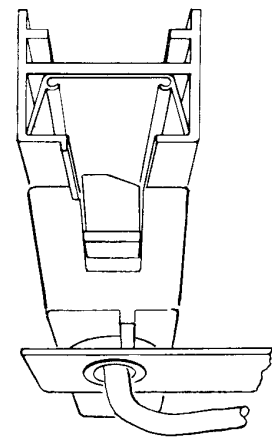

FIG. 3
3. Rotate FITTING until LOCKING LEVER snaps and locks in place (see Fig. 3).